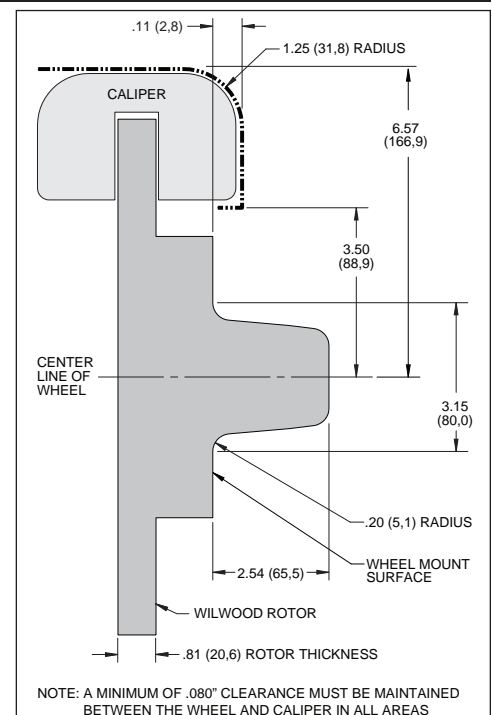

Figure 2. Wheel Clearance Diagram
- Review the Wheel Clearance Diagram (Figure 2, page 3) to verify that there is adequate clearance with the wheels you will be using with the installation.
- Verify your wheel clearance using Figure 2.
- **WARNING:** The wheel contact surfaces must seat completely on the face of the hub. If any contact surfaces overhang the outside diameter of the hub face, a 6.60" diameter x .20" thick steel spacer (item 27, Wilwood P/N 300-11961) MUST be used between the wheel and the hub.